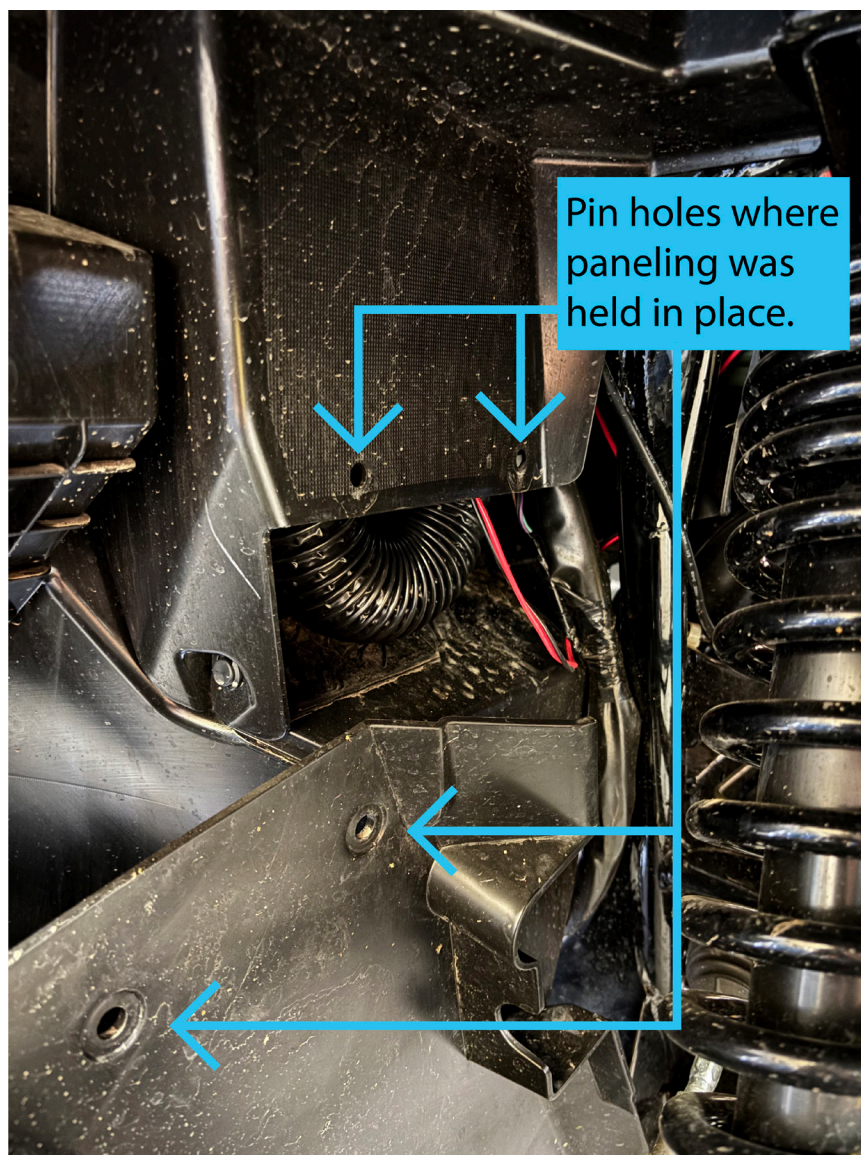

FIGURE 1
2. Remove the driver side wheel well shield. FIGURE 1